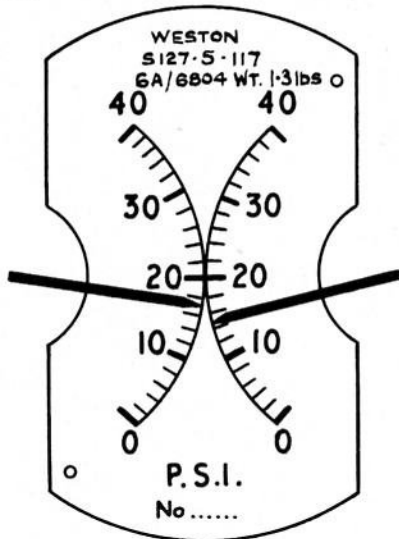

Fig. 1. Indicator, Type S127.5.117
1. The dual pressure indicator, Type S127.5.117 (fig. 1) is calibrated in lb/in² from 0 to 40 on each of the two scales. The deflection of each pointer is controlled by variation of resistance of an externally connected pressure transmitter. The two indicator movements are each designed as a ratiometer. The indicator is designed to be used in parallel with another indicator of the same type, and must be so connected.